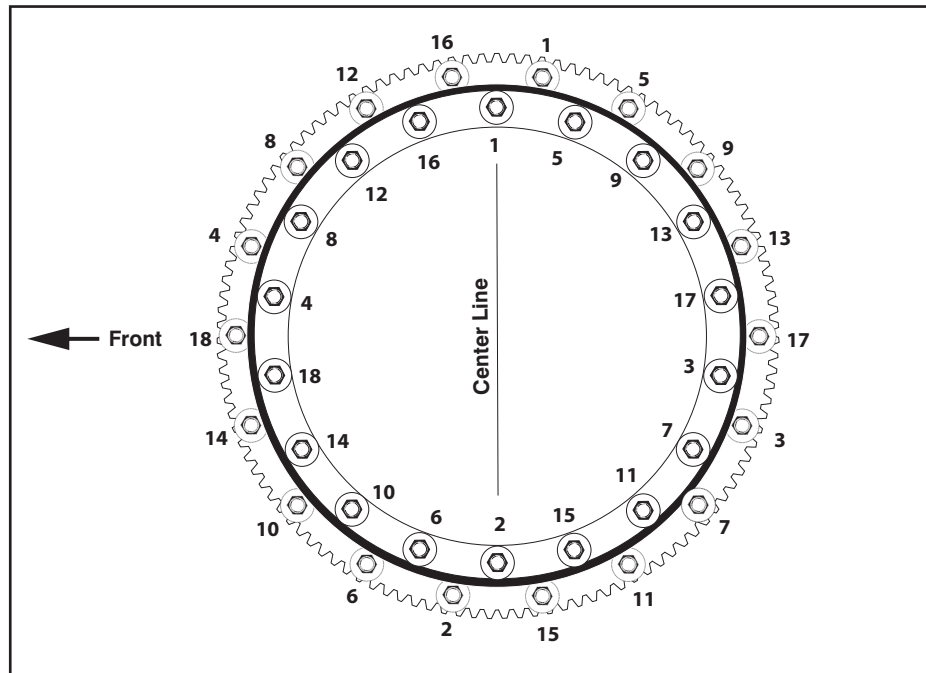

Figure 3-34. Swing Bearing Torque Sequence
2. Refer to Torque Sequence diagram as shown in Figure 3-34., Swing Bearing Torque Sequence. Clean residue off new bearing bolts and apply a light coating of Thread Locking Compound JLG P/N 0100019. Install bolts and washers through frame and outer bearing race. Torque bolts to 190 ft-lb (258 Nm). Remove lifting equipment from bearing.
6. Following Torque Sequence diagram shown in Figure 3-34., Swing Bearing Torque Sequence, torque bolts to 190 ft-lb (258 Nm).
See Figure 3-34. Swing Bearing Torque Sequence.